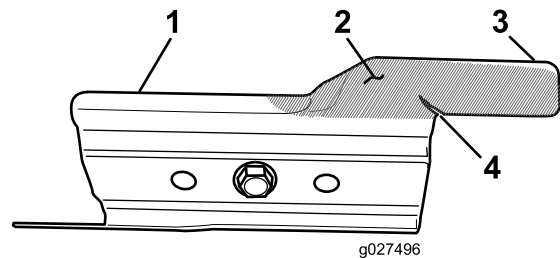

Figure 24
Carefully examine the accelerator for excessive wear (Figure 24). Because sand and abrasive material can wear away the metal (especially in the area shown as item 2 in Figure 24), check the accelerator before using the machine. If you notice that a tab on the accelerator has been worn down to a sharp edge or there is a crack, replace the accelerator.